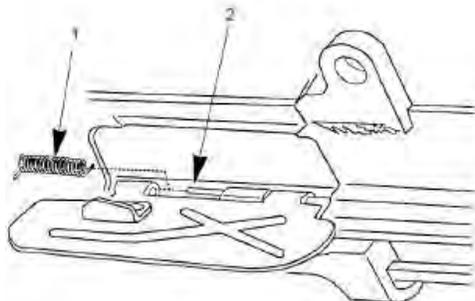

Figure 17. Installation of Torsion Spring.
3. With the short leg of the torsion spring to the right and down (Figure 17, Item 1), position spring on to the exposed end of the grooved headless pin (Figure 17, Item 2).